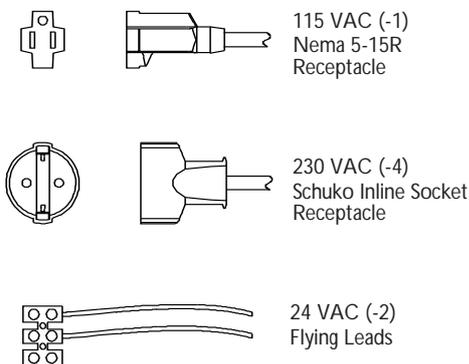

FIGURE 11 Camera Connections
**Installing a 115 volt camera** into the HS9386-6 housing simply requires the camera's line cord to be plugged into the NEMA 5-15R receptacle provided. See FIGURE 11.
**Installing a 24 volt camera** into the HS9386-2 housing simply requires the two flying leads be attached to the camera's terminal block. See FIGURE 11.
**Installing a 230 volt camera** into the HS9386-5 housing simply requires the camera's line cord to be plugged into the *Schuko* inline receptacle provided. See FIGURE 11.